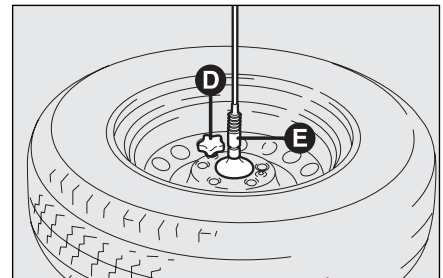

fig. 7
- ☐ take the flat tyre, hook it to support **E-fig. 7** and screw knob **D-fig. 7**;